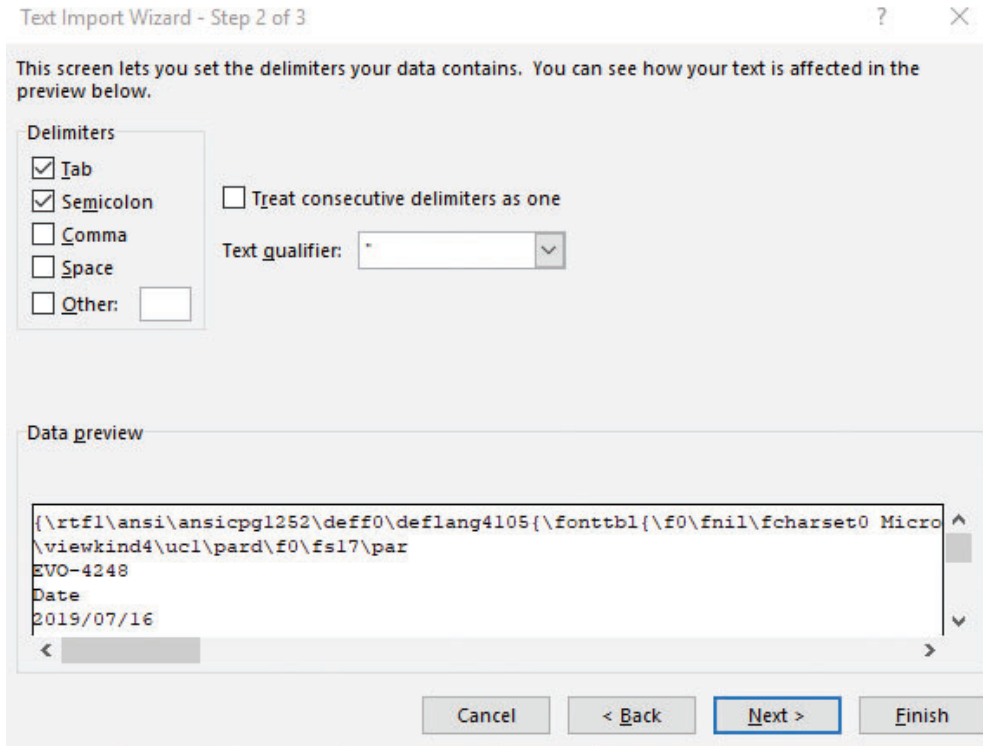

Fig 5.3 Screen Shot of Step 2 of "Text Import Wizard" in Excel
- Text Import Wizard – Step 2 will appear (*See Fig 5.3*). Choose "Semicolon" and click 'Finish' button.